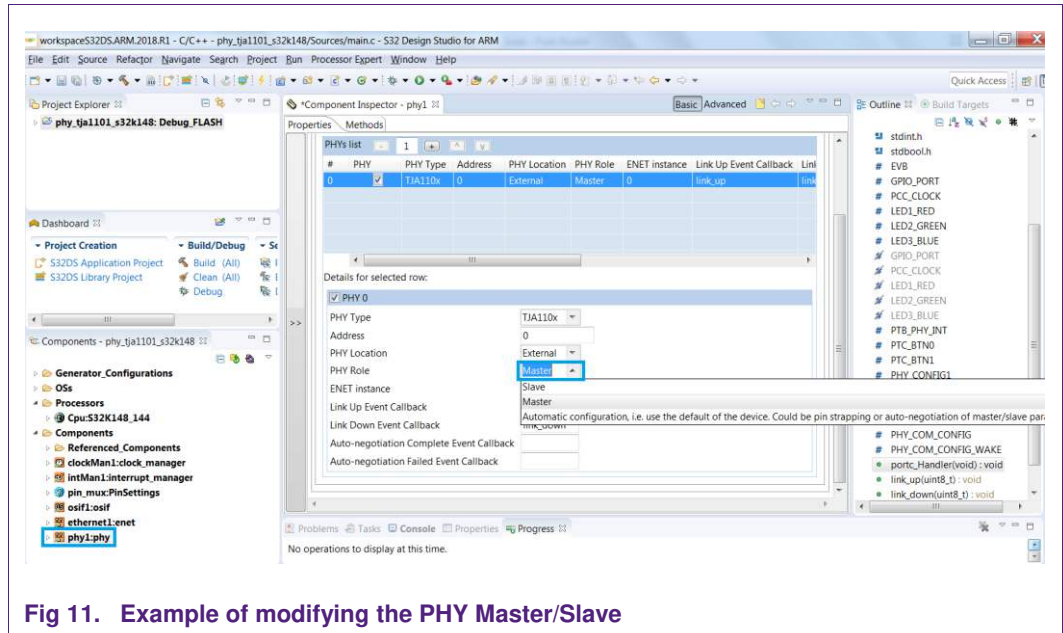

Fig 11. Example of modifying the PHY Master/Slave
- A new project with the name “phy\_tja1101\_s32k148” appears in the project explorer. Now you can modify the example codes by your own. Fig 11 shows how to modify the Master/Slave configuration of the TJA1101 in S32DS: double click the “phy1: phy” (usually lower left corner), then select the Master/Slave/Automatic (pin strapping) in the drop-down list of the “PHY Role” box.
- Configure the Master/Slave during startup of the TJA1101 via the jumper “SEL\_MAST/SLV” (Open=Master, Closed=Slave) on the ADTJA1101-RMII board, in case the TJA1101 is configured as “Automatic configuration...” in S32DS (see Fig 11). Please refer to the user manual of the ADTJA1101-RMII regarding the jumper settings